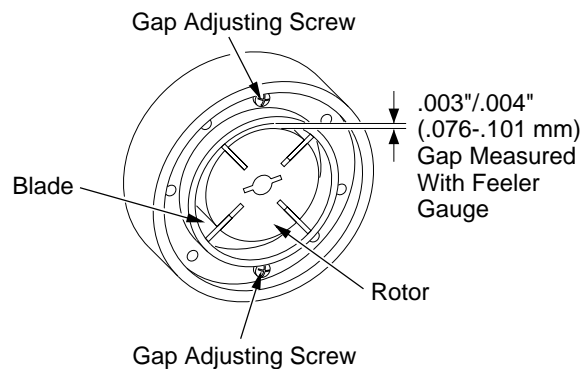

Figure 24 - Gap Adjusting Screw Locations
10. Check gap on rotor. Adjust to .076/.101 mm (.003"/.004") if needed (see Figure 24).